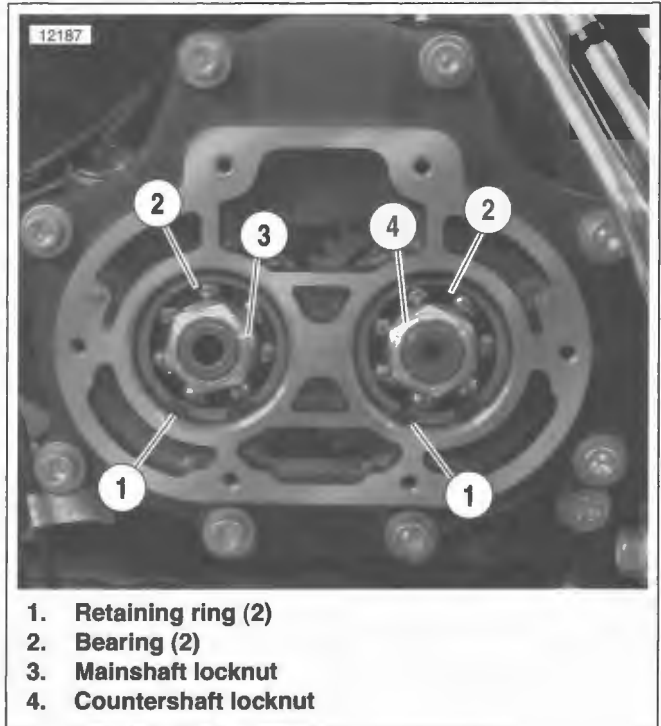

Figure 7-15. Side Door Locknuts
- See Figure 7-15. Remove mainshaft and countershaft locknuts.